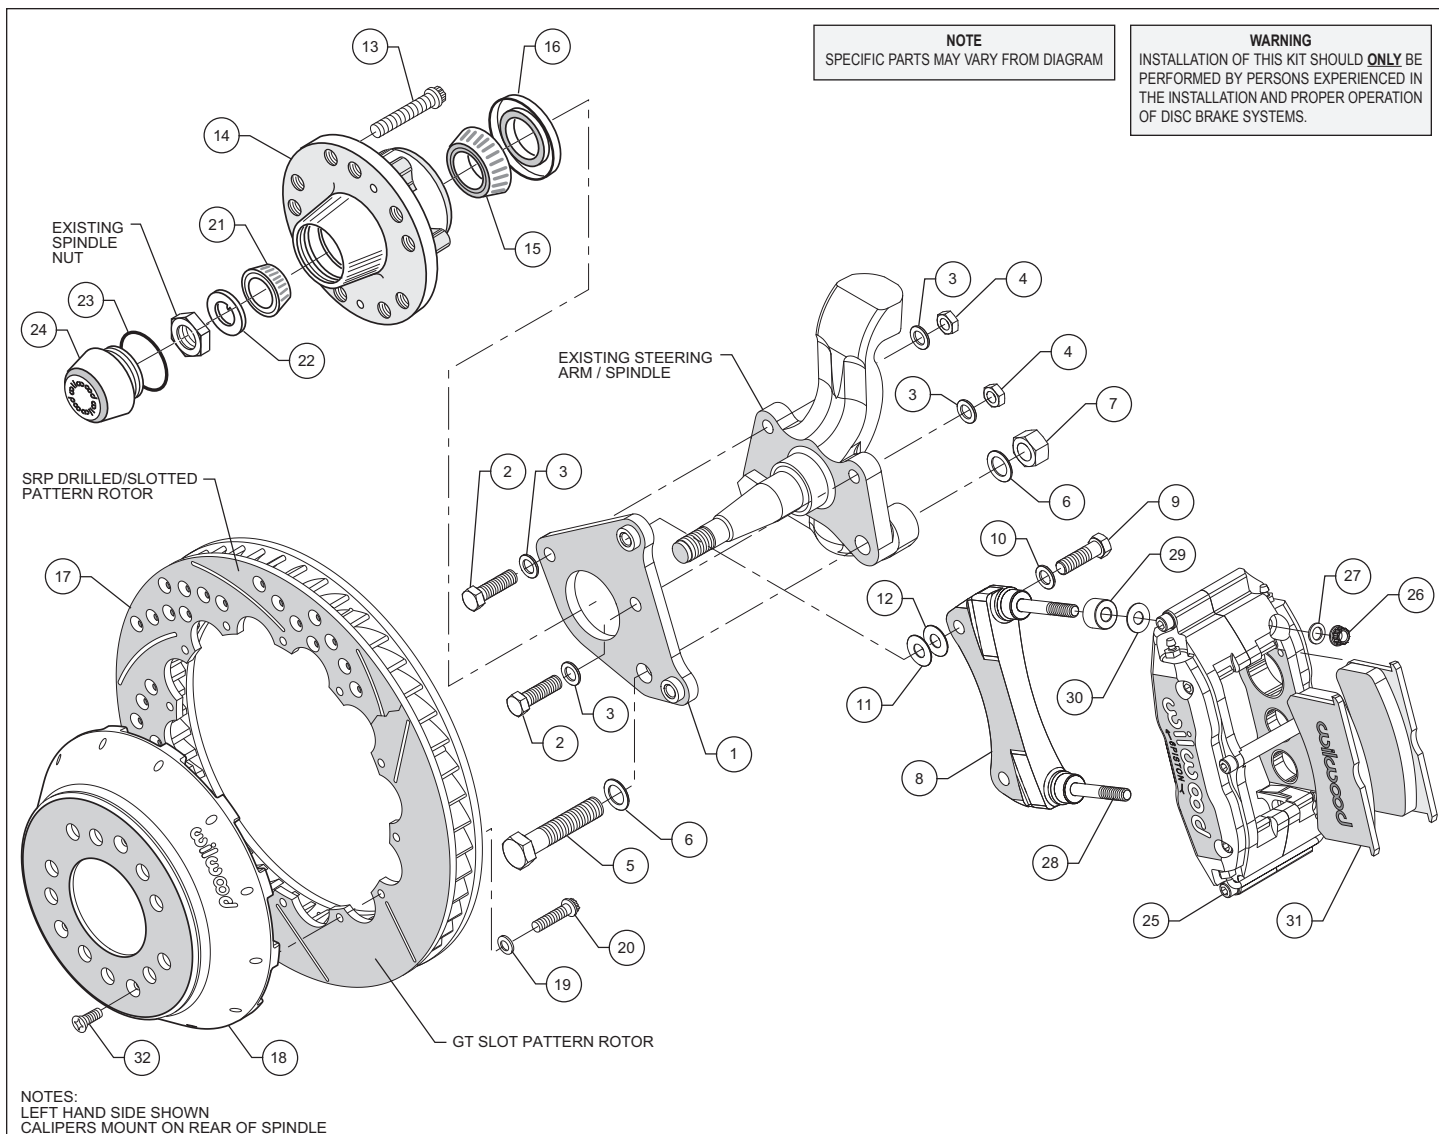
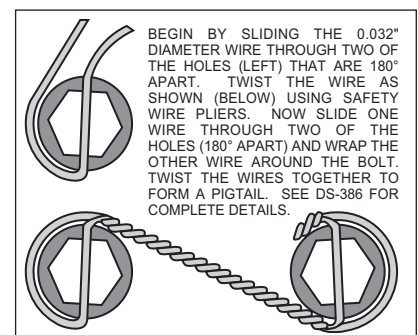

Figure 1. Typical Installation Configuration
Figure 3. Safety Wire Diagram
- Apply red *Loctite*® 271 to bolt threads (2 and 5) before assembly of the flat caliper bracket (1) to backing plate face of spindle. Install bolt (5) and washer (6) through caliper bracket (1), spindle face and the steering arm. Install another washer (6) and lock nut (7) on the rear side. Install two bolts (2) with washer (3) through caliper bracket (1), spindle face and the steering arm. Install another washer (3) and lock nut (4) on the rear side. Torque two bolts (2) to 47 ft-lb. Torque bolt (5) to 140 ft-lb. **NOTE:** Be sure the heads of the caliper bracket (1) insert nuts are facing outward toward the wheel. Reference Figure 1 as necessary.
- The radial caliper mounting bracket assembly (8) should be installed first with clean, dry threads on the mounting bolts. Install the bracket on the inboard side of the flat caliper mounting bracket (1) by sliding bolt (9) through flat washer (10), through the mounting hole in the bracket (8) and into the flat bracket (1) insert nuts. Initially place two shim washers (12) between the two brackets (1 and 8) (see figure 1). The radial bracket (8) must tighten squarely against the inboard side of the flat mounting bracket (1). Later, after the caliper, pad, and rotor alignment has been checked, and any necessary shims have been put in place, the mount bolts should be coated with red *Loctite*® 271 and torqued to 47 ft-lbs.
- Install five new wheel studs (13) into the hub (14). Torque to 77 ft-lb. **NOTE:** There are two five lug patterns in the hub (5 x 4.00 and 5 x 4.50). Make sure of the correct hole pattern for the correct wheel application before installing studs into hub.
- Pack the large inner bearing cone (16) with high temperature disc brake bearing grease (available from your local auto parts store) and install into the backside of the hub (14).
- Install the grease seal (16) by pressing into the backside of the hub (14).
- With the larger I.D. side of the rotor (17) facing away from the hat (18), bolt rotor (17) to hat (18) through the backside of the rotor using washers (19) and bolts (20). Torque bolts (20) in an alternating sequence to 85 in-lb. Safety wire bolts (20) using standard 0.032 inch diameter stainless steel safety wire as shown in Figure 3. Please refer to Wilwood's data sheet DS-386 (available at www.wilwood.com/Pdf/DataSheets/ds386.pdf) for complete safety wire installation instructions.
- Pack the small outer bearing cone (21) with high temperature disc brake bearing grease. Lightly coat the spindle bearing surfaces with bearing grease. Slide the hub assembly (13, 14, 15 and 16) with outer bearing cone (21) onto the spindle. Secure using spindle washer (22), existing adjusting nut and nut locking device.